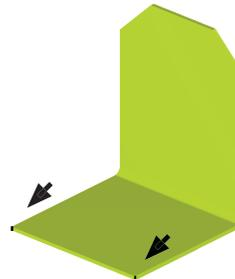

Fig. 36
Step 15. Zoom out  and Dynamic View  to swing the around to view the bottom corners, **Fig. 36**.